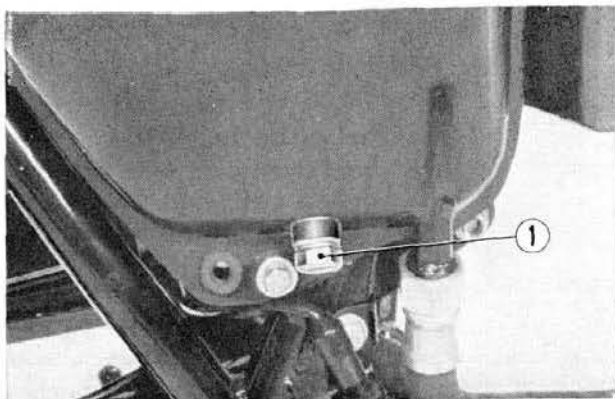

Fig. 19-1 ① Oil tank drain plug
(1) Take the oil tank cap off and remove the drain plugs from the oil tank and lower crankcase. (Fig. 19-1, 2) The oil will drain steadily. Operate the kick starter several times to drain any oil which may have been left within the pockets of the engine. After the oil has been thoroughly drained, reinstall and tighten the drain plugs.
(2) Add approximately **3.0 qts. (2.9 lit.)** of good grade oil of **MS, DG or DM, SAE 10 W-40 or 20 W-50** into the oil tank and start the engine. After making sure that the warning light is off, raise the engine rpm to **1000~1500** and run the engine for one or two minutes.